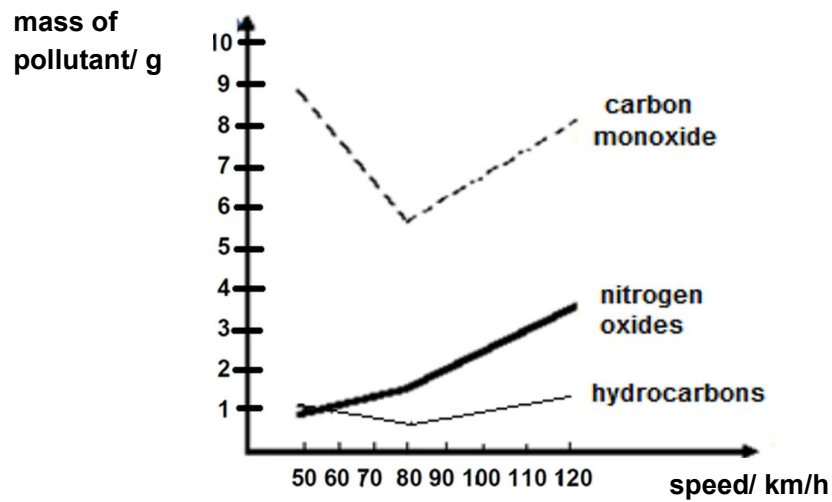

Fig. 8.1
- (c) The efficiency of car engines is tested in a test facility. The mass of various gaseous pollutants is measured from the exhaust pipe of a car at different speeds. The results are shown in Fig. 8.1.
- (ii) Describe and explain the trend of carbon monoxide emissions in Fig. 8.1 as the speed of the motor car increases from 50 km/h to 120 km/h.
With reference to nitrogen oxides in Fig. 8.1, explain with the help of chemical equations, if necessary, how a catalytic converter helps to reduce the nitrogen oxides emission.